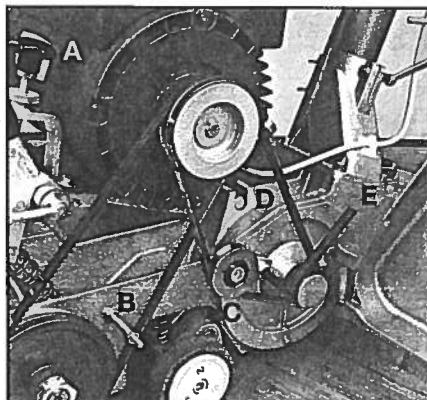
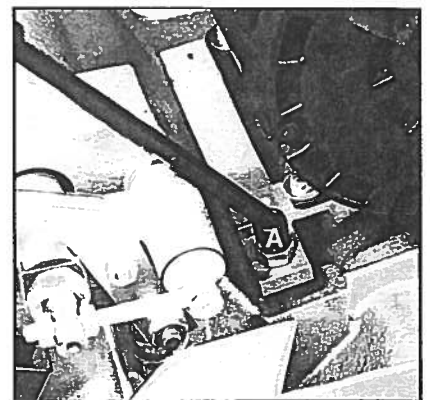

Fig. 03a A. Star knob #5.03 B. Drum belt C. V-belt tensioning pulley #74 D. Fan belt E. 10mm Hex wrench
Fig. 03b A. Motor mount tension bolt
5. Install drum and fan belts. Tighten belts to desired tension by adjusting star knob #5.03 (SUPER 8) or the motor mount tension bolt #ST150.03 (SUPER 10). The belts should have about 1/4" flex. To tighten fan belt, you adjust the V-belt tensioning pulley using a 10mm hex wrench. See Fig. 03a and Fig. 03b. Note: It is advised to leave the drive belts in a relaxed state when the machine is not in use. This will allow the belts to relax back to their original dimensions rather than stretching. It is also advised to leave the belts a little loose when starting the motor after hours of shut down. This will reduce stress on the motor bearings and drive belts. Allow the motor to run for a minute, then carefully tighten the belts as described above. Note: It is advised to re-check the belts after a few minutes of running activity. They may loosen from warming and stretching and slip on their pulleys causing a loss of machine performance.
3. Open the belt guard and turn the star knob #5.03 - Fig 03a (or the motor mount tension bolt on the Super 10 - Fig 03b) until both belts are slack. Carefully peel the belts off their pulleys.
5. (Super 10 Machine) Loosen the motor mount tension bolt with wrench (supplied) until both belts are slack - Fig 03b. Carefully peel the belts off their pulleys.